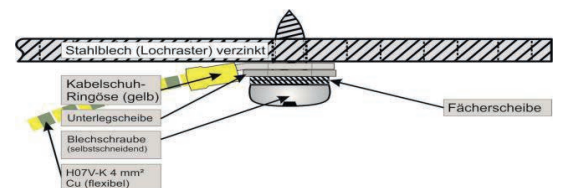

Figure 3
The earthing cable (A) must be connected as shown in Fig. 3. Use the mounting set (F) to connect the earthing cable. First put the serrated lock washer (M4), then the washer (M4) and then the small ring eye of the earthing cable (A) onto the sheet-metal screw. Then screw the screw into the mounting plate (perforated metal sheet).